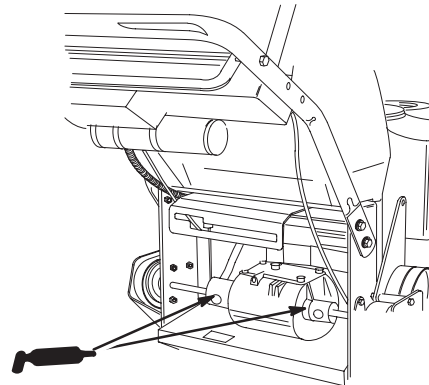

Figure 33
- Lubricate the transmission couplers located in the back of the machine (Fig. 33).